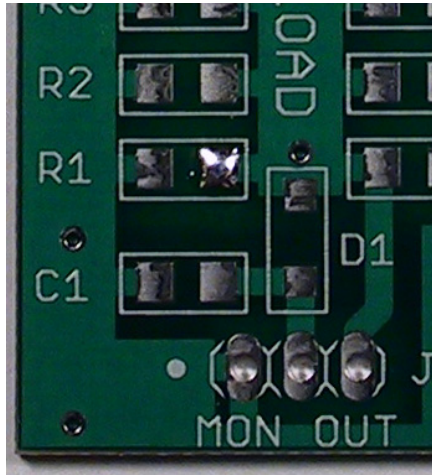

Figure 2. The Right Amount of Solder at R1
- Apply a small amount of solder to the right pad of R1, as shown in Figure 2.